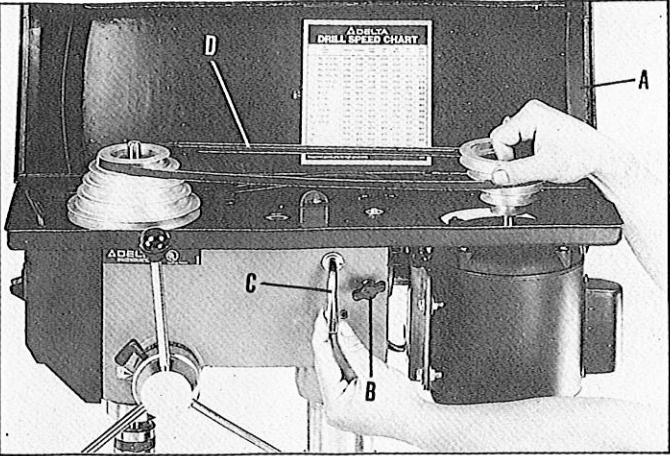

Fig 22
2. Lift up the belt and pulley guard (A) Fig. 22.
3. Release belt tension by loosening tension lock knob (B) Fig. 22, and moving tension lever (C) forward.
4. Position the belt (D) on the desired steps of the motor and spindle pulleys, as shown in Fig. 22.